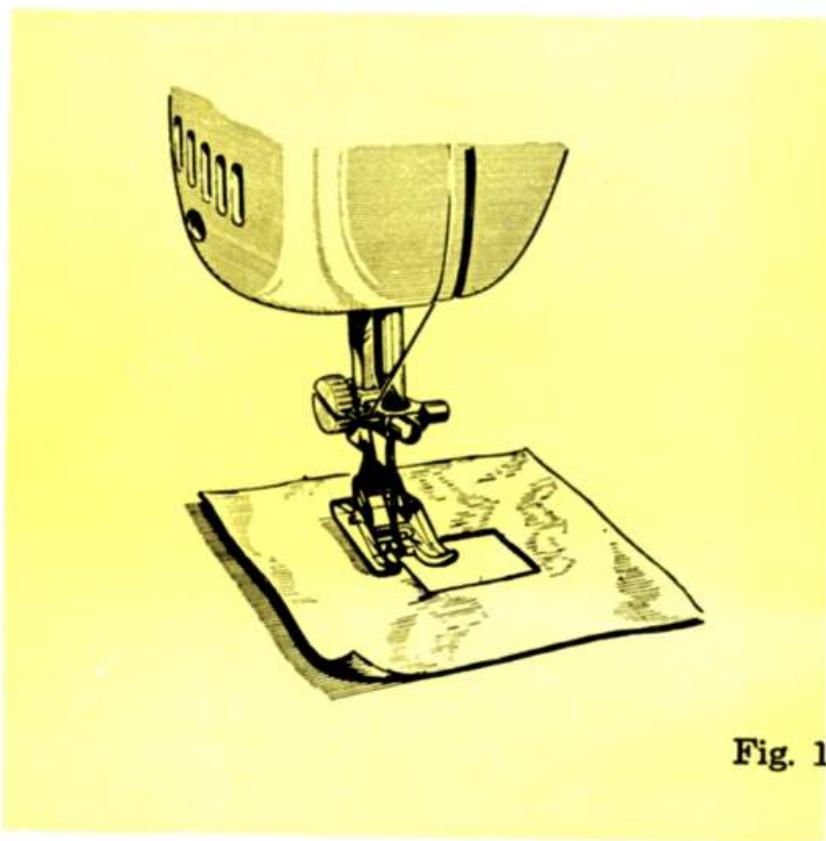

Fig. 1
4. Remove scrap material and place area you wish to darn under presser foot, so that the said area is at the right of the needle, and the needle is at the top of the hole to be darned (see Fig. 1).